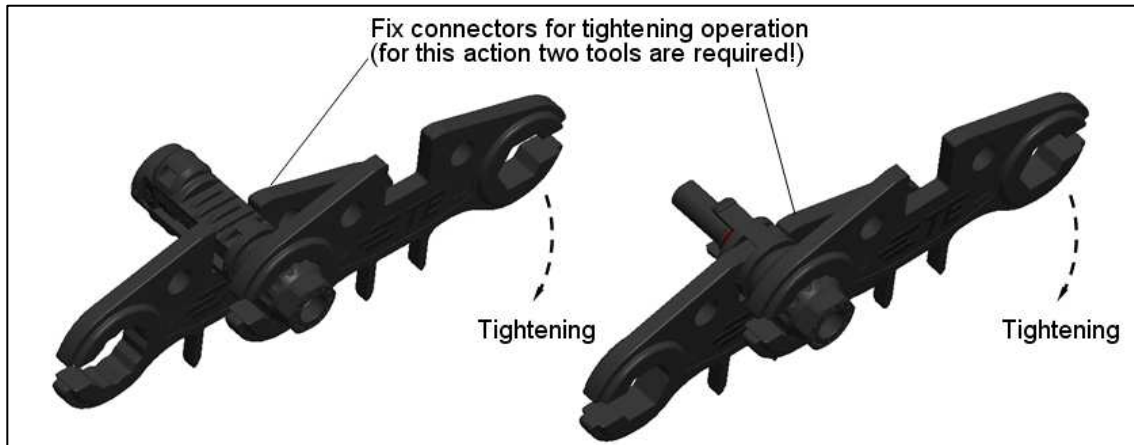

Figure 14
3. For installation application, the opening tool can be used for tightening operation in **Figure 14**